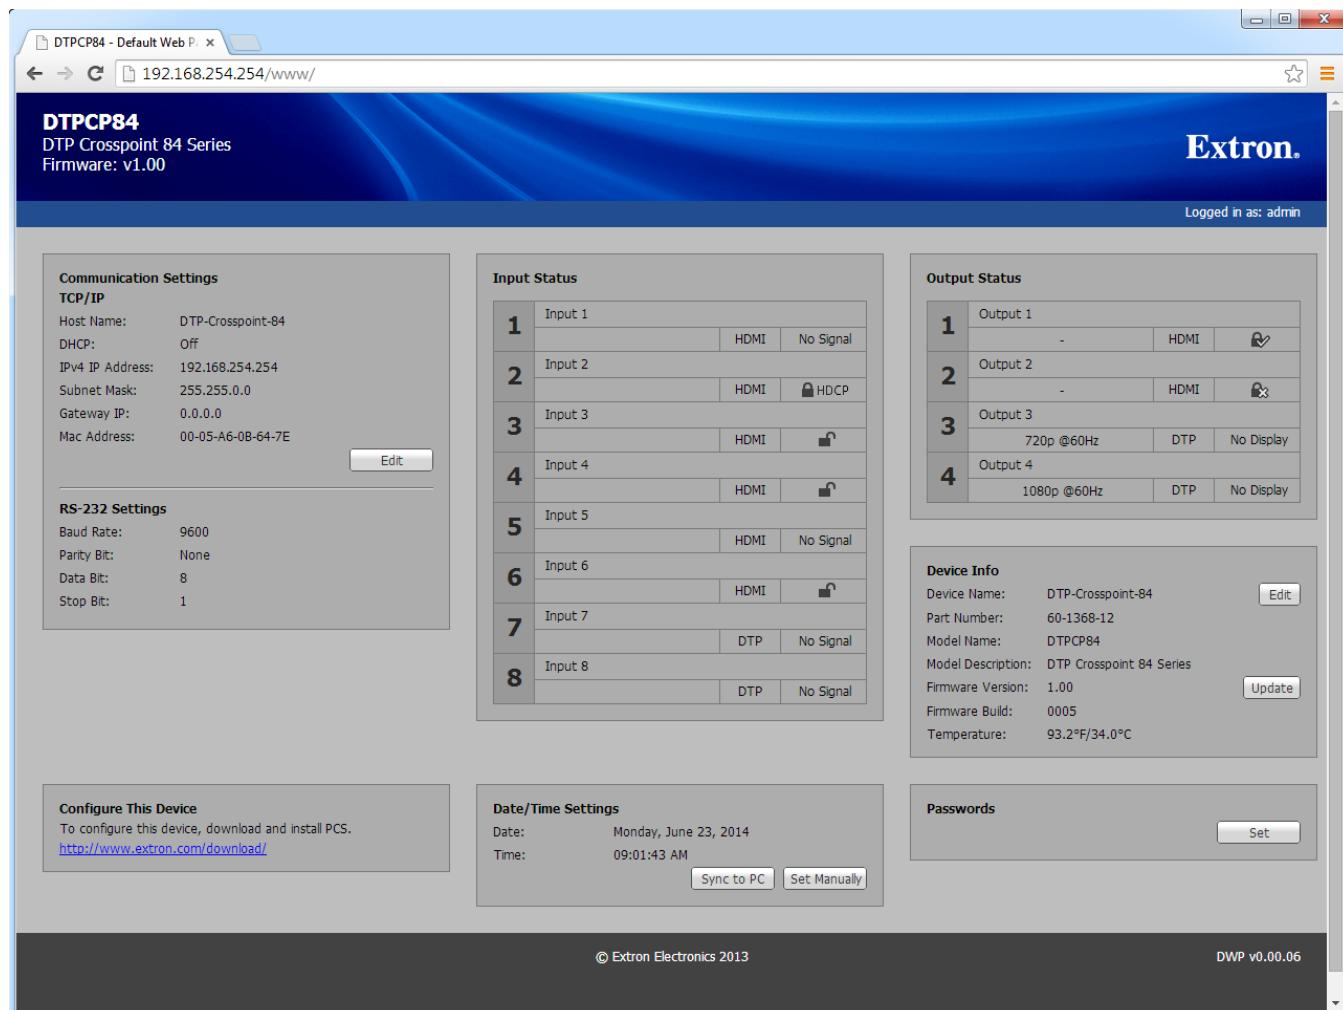

Figure 77. Built-in HTML Page
The switcher downloads the factory-installed HTML page (see figure 77 on page 132).
7. Click **Upload** (②). The switcher reports **Uploading**, **Initializing**, **Installing**, and **Rebooting**. this process may take 6 to 8 minutes. After the reboot is complete, the display returns to the default HTML page (see figure 77 on page 132).